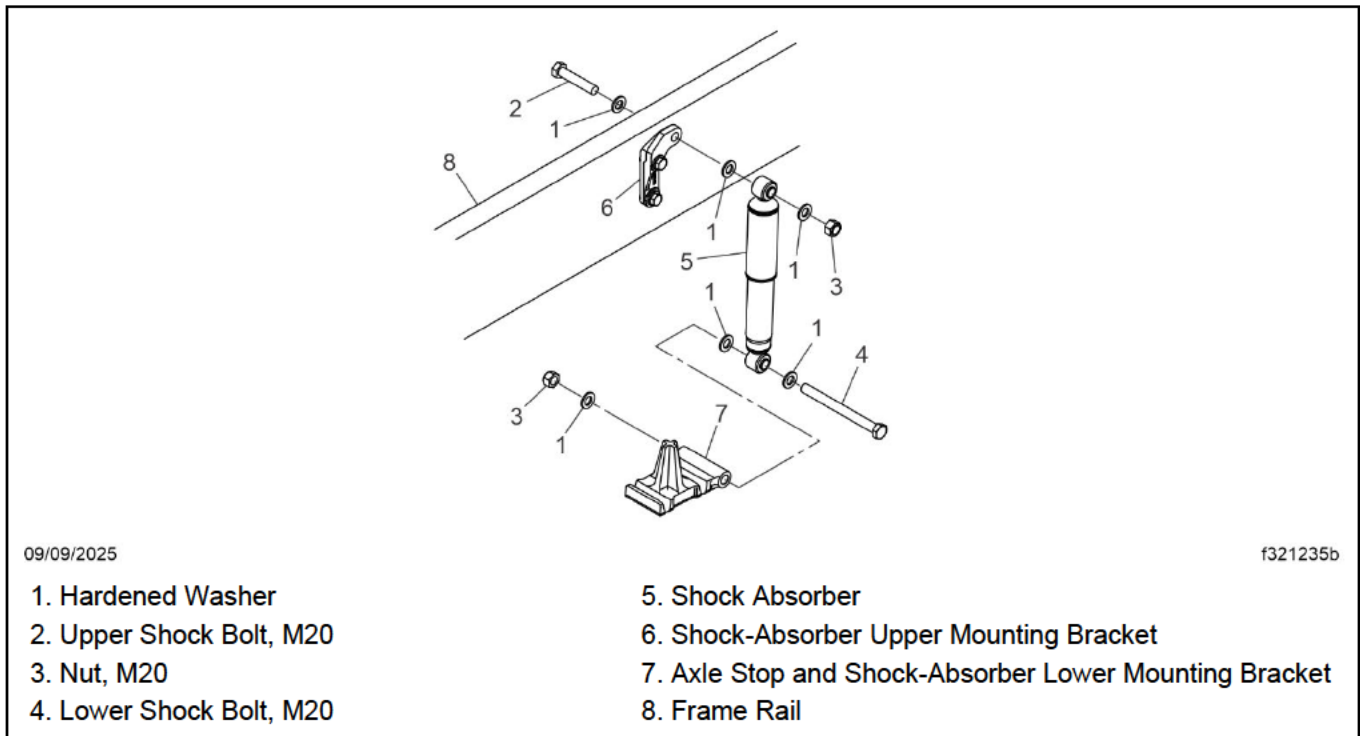

Fig. 1, Front Suspension Shock Absorber
- Remove the upper and lower shock bolts and remove the shock absorber from the upper and lower mounting brackets. See Fig. 1.
- Remove the shock absorber upper mounting bracket. See Fig. 1.